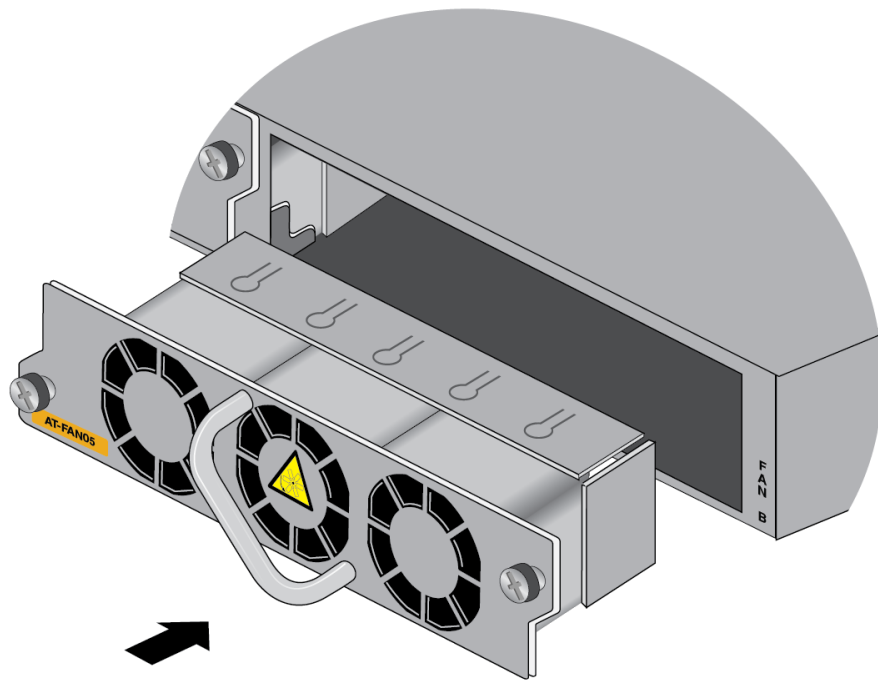

Figure 155. Aligning the FAN05 Module in the Switch Slot
2. Align the fan module in the slot. Refer to Figure 155 on page 254.